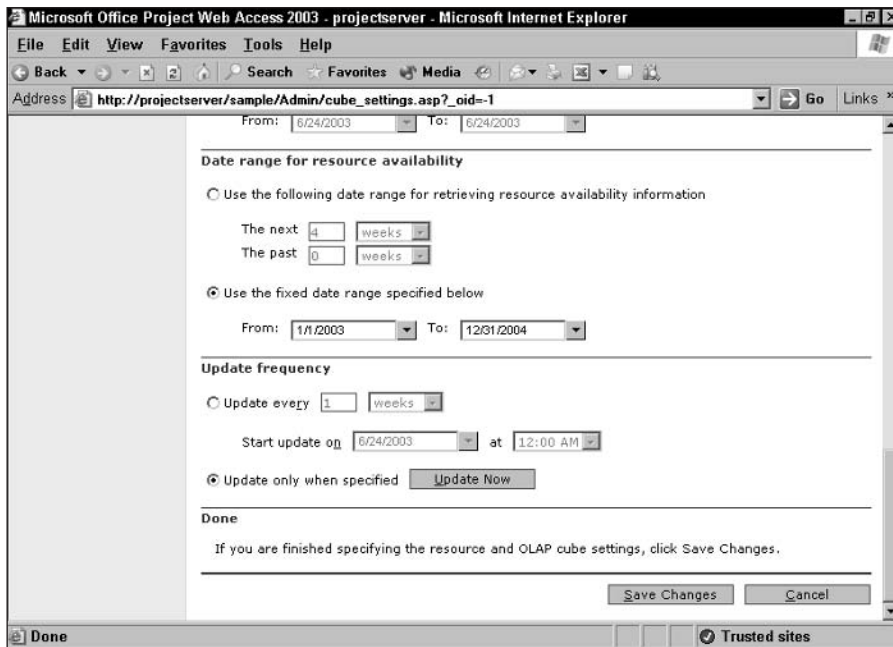

Figure 19-53: Choose a date range for resource availability and an update frequency.
7. In the Date range for resource availability section (see Figure 19-53), choose the date range that you want to use for resource updates.